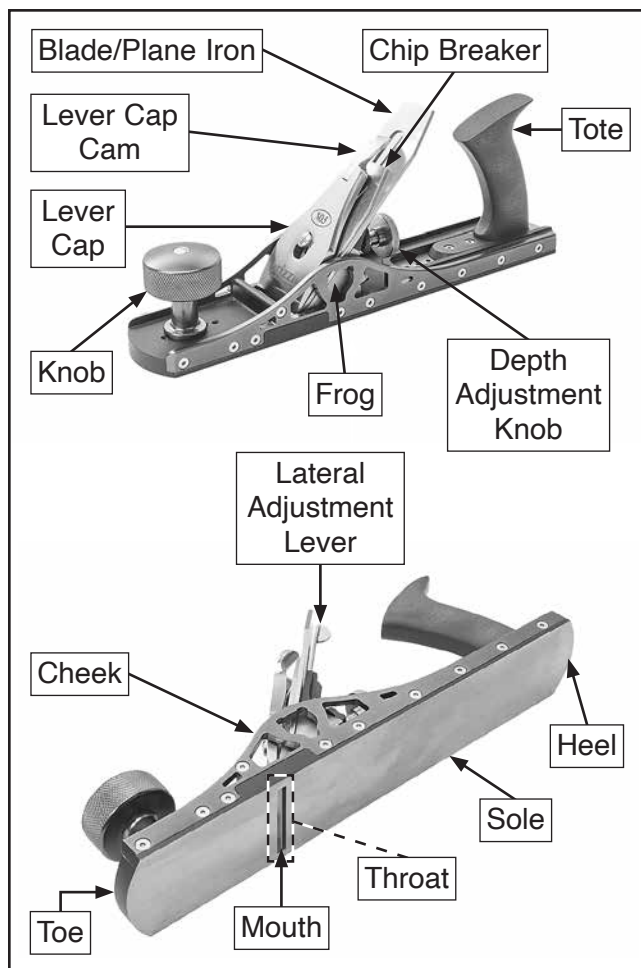

Figure 2. Identification.
1. Open lever cap cam, then remove lever cap, blade, and chip breaker (see **Figure 2** on **Page 1**). Note which side faces up.